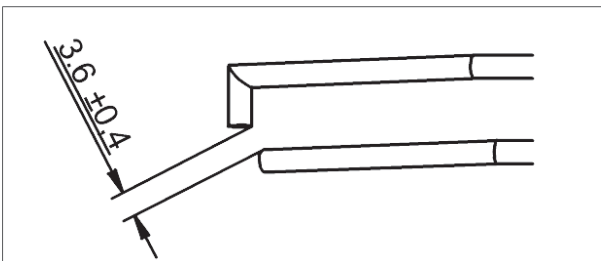

Figure 22 - Distance between the two electrodes
- b. The distance between the two electrodes should be $3.6 (\pm 0.4)$ mm (figure 22).